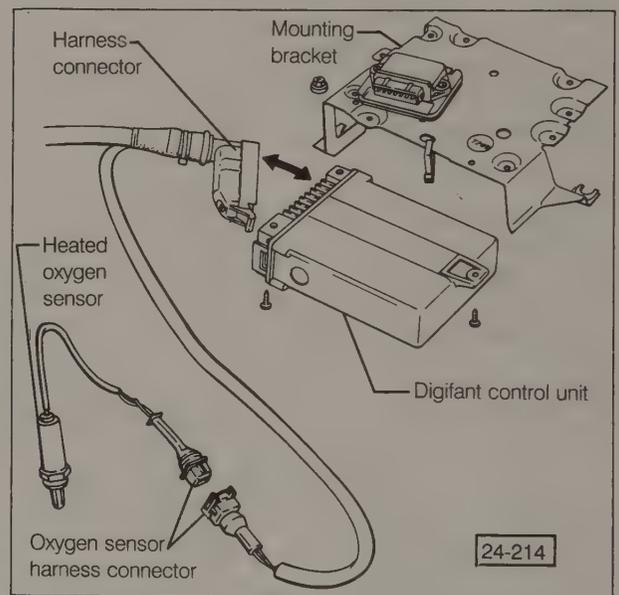

Fig. 5-7. Digifant control unit and oxygen sensor showing mounting and harness connectors.
1. Disconnect the harness connector from the Digifant control unit, as shown in Fig. 5-7.
The Digifant control unit is located on the driver's side of the car above the firewall, under the windshield cowl. See Fig. 5-7 above. Disconnect the battery negative (-) terminal. Lift out the plastic drip tray for access to the control unit. Disconnect the harness connector, remove the mounting screws, and lift out the unit. Installation is the reverse of removal. Make sure that the connector and socket are clean and dry, that the connector is solidly attached, and that no wires are bent or pinched.